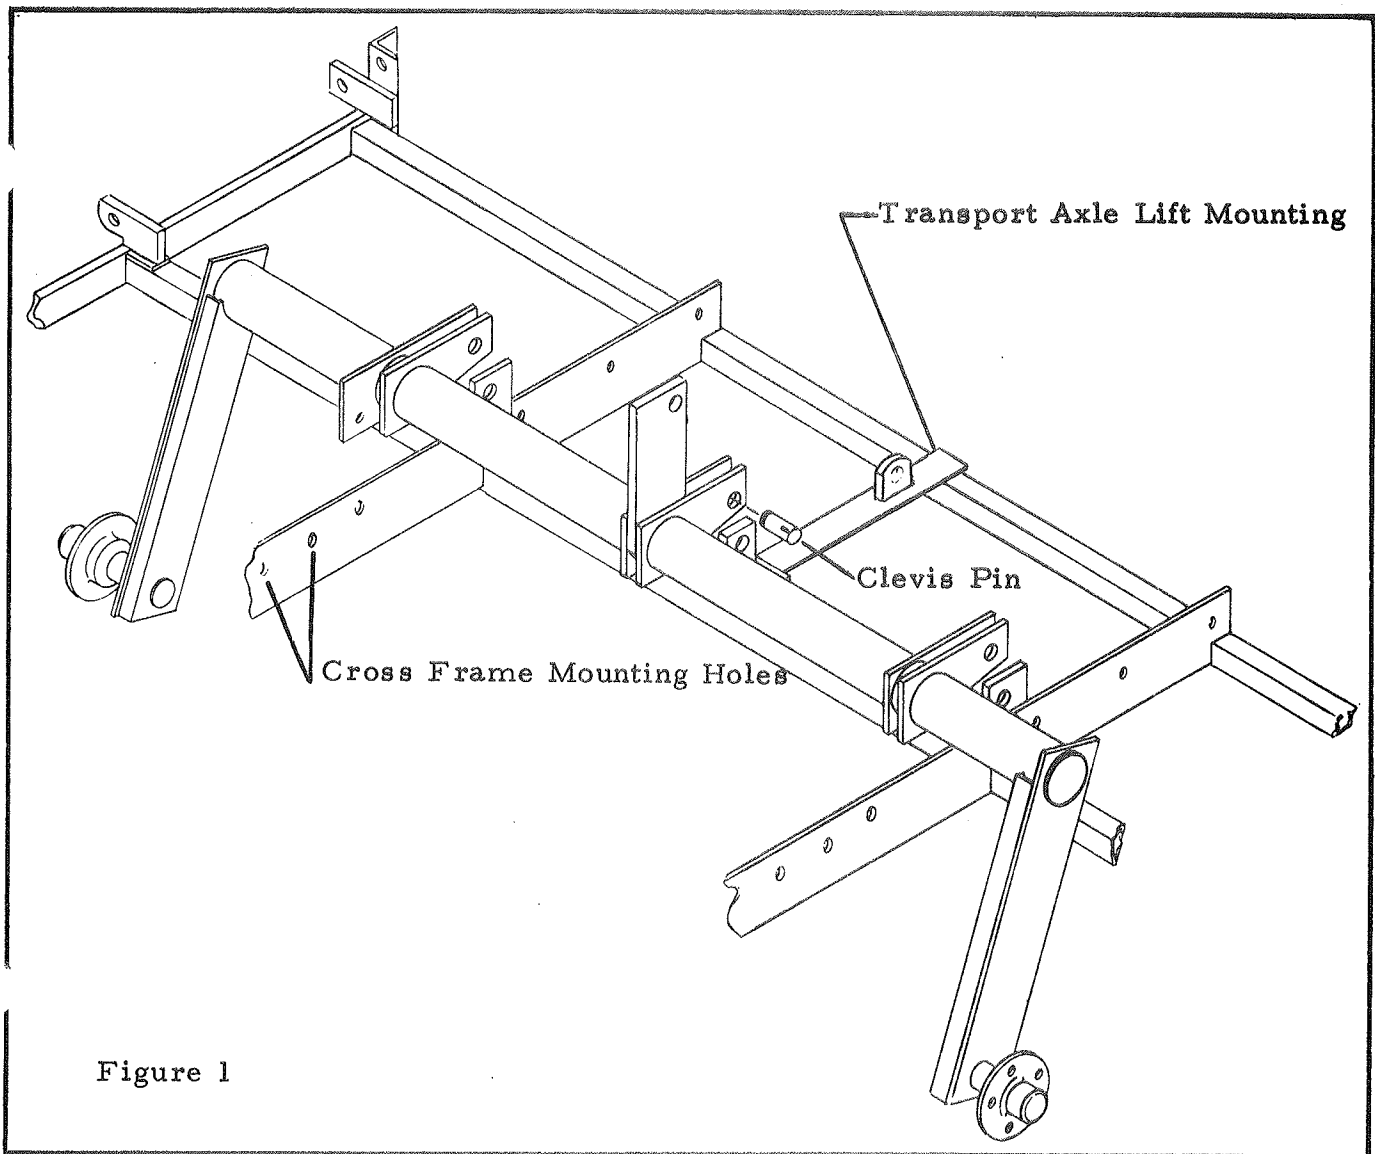

Figure 1
To begin assembly, block up the center section to provide adequate space to install the transport axle in position. Then place the transport axle in position and secure it to the frame using the 1" clevis pins found in the box assembly (see figure 1). Next position the cross frame on the center section and secure it using (4) 5/8 x 2" long capscrews. The mounting holes are indicated on figure 1.
ASSEMBLY OF THE DRAWBAR -- Refer to Figure 1 of Repair Parts Catalog
Position the drawbar on the center section frame, using the center pivot arm of the transport axle as a guide to center the drawbar. The two angles that are welded to the bottom of the drawbar straddle the front tooth bar. Now place the transport axle lift mount on the drawbar and insert the 1" clevis pin, attaching the axle pivot arm to the lug. Fasten the lug assembly to the drawbar using the parts and the fasteners shown in their respective positions in figure 1 of the repair parts catalog. DO NOT completely draw up the fasteners until the drawbar is completely assembled. Position the vertical brace support against the front side of the tooth bar. Use the fasteners shown in figure 1 of the repair parts catalog, but do not tighten them until the drawbar and braces are completely assembled. Next attach the inner drawbar braces to the outside of the front-to-rear members of the center section frame. Refer to figure 1 for the mounting hole locations and the fasteners to use. Now slide the tongue brace over the drawbar tube (note the top side of the tongue brace has two holes for mounting the hydraulic hose holders). Align the holes in the inner drawbar braces and the tongue brace. Complete the assembly of the drawbar braces by attaching the outer drawbar brace to the frame using 3/4 x 3" long capscrews. Attach the opposite end to the tongue brace and the inner drawbar brace using the 5/8 x 3" long capscrew. Complete the drawbar assembly by attaching the hitch plates and inner drawbar braces to the drawbar. Install the hitch clevis in the hitch plates (refer to repair parts catalog figure 1 for identification and fasteners used). At this point, all fasteners should be drawn up tight.